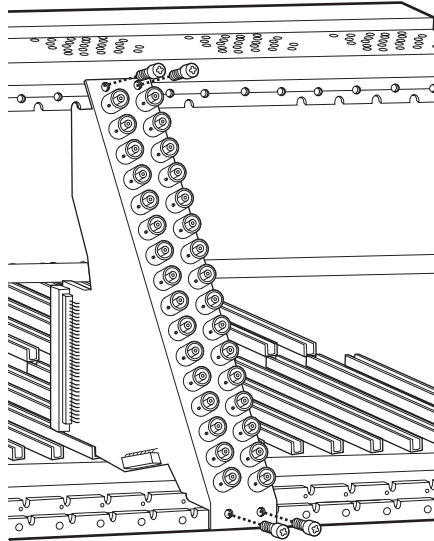

Figure 21. CM9760-RPL Rear Panel Looping Card Installation
4. Slide the new card into the card guides (refer to Figure 21).